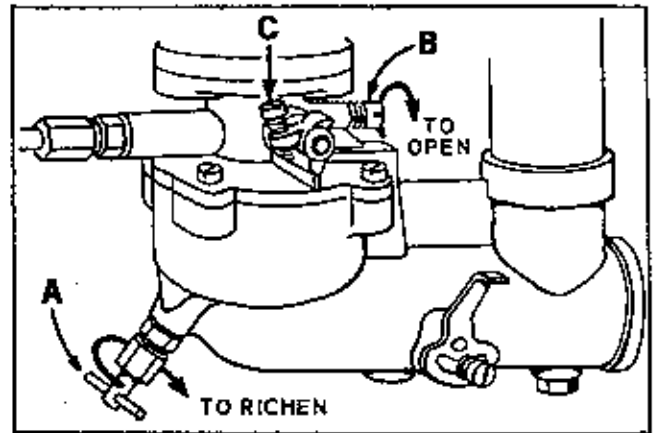

Figure 18. Carburetor adjustments.
1. See figure 18. Turn the needle valve (A) clockwise until it just closes. **CAUTION: VALVE MAY BE DAMAGED BY TURNING IT IN TOO FAR.**
2. Open the needle valve (A) one and one half turns counter-clockwise.
3. Turn the idle valve (B) clockwise until it just closes.
4. Open idle valve (B) one half to three quarter turns.
2. See figure 18. Turn needle valve (A) clockwise until engine misses, (Lean mixture), then turn it out (counter-clockwise) past the smooth operating point, until the engine runs unevenly (Rich mixture). Now turn needle valve (A) to the mid-point between the rich and lean mixture so the engine runs smoothly.
3. Move the engine speed control lever to the slow position, and set the idle speed adjusting screw (C) so a fast idle is obtained (1200 RPM). Hold the throttle in this idle position and turn the idle valve (B) clockwise (lean) and counter-clockwise (rich) until the engine idles smoothly.
4. Reset the idle speed so the engine idles at 1200 RPM. Push the engine speed control lever forward to the fast position, the engine should accelerate without hesitation or sputtering. If the engine does not accelerate properly, readjust needle valve (A) to a slightly richer mixture.